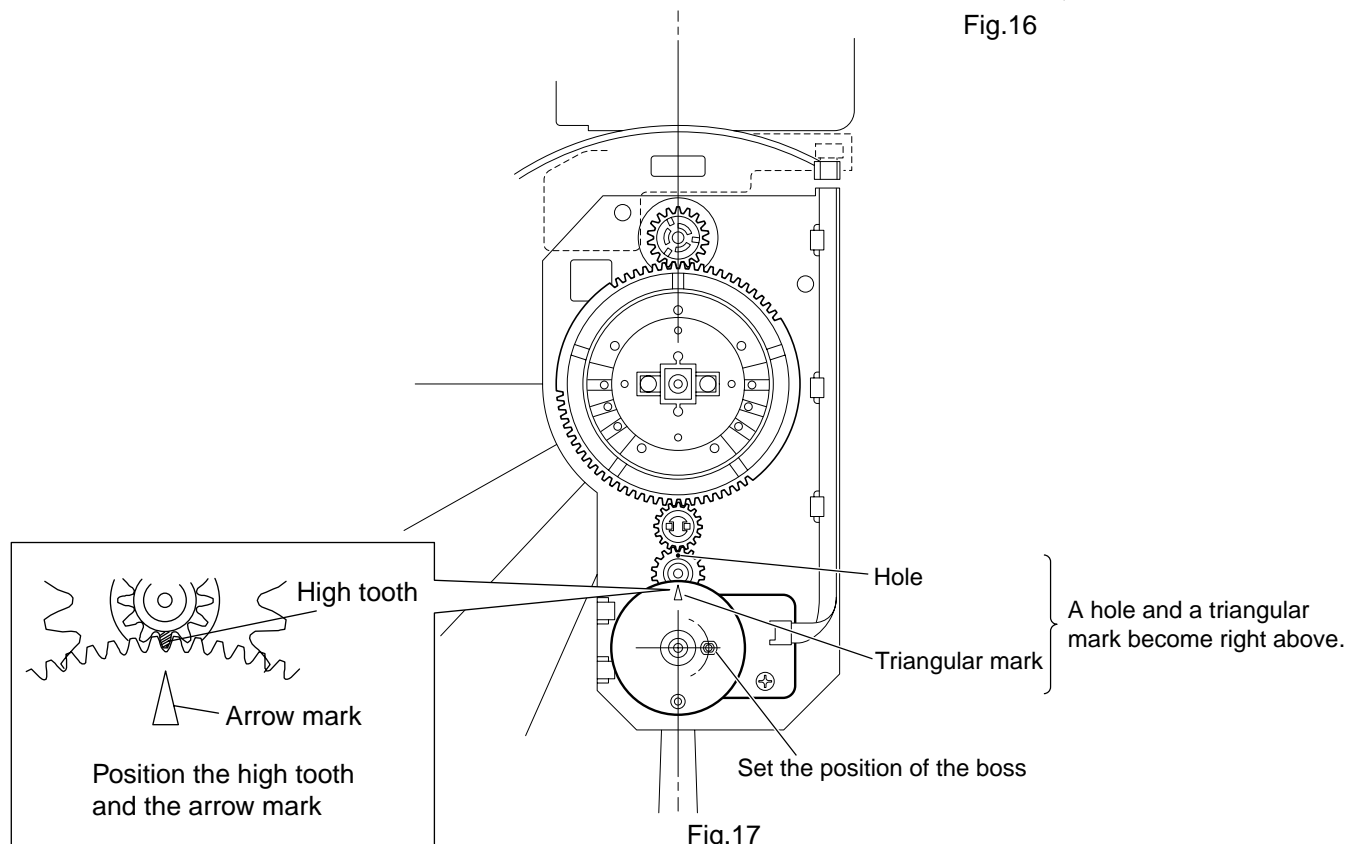

Fig.17
**CAUTION:** When reattaching the cam gear (2), set the position of the boss and the triangular mark and hole as shown in Fig.17.